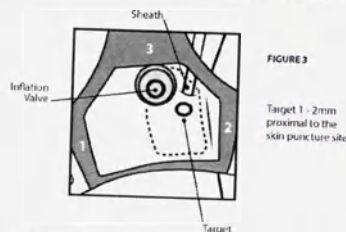

FIGURE 3
- Place the center of the balloon "target" over the arteriotomy (location where the sheath entered the artery, approximately 1-2mm proximal to the skin puncture site) (FIGURE 3).